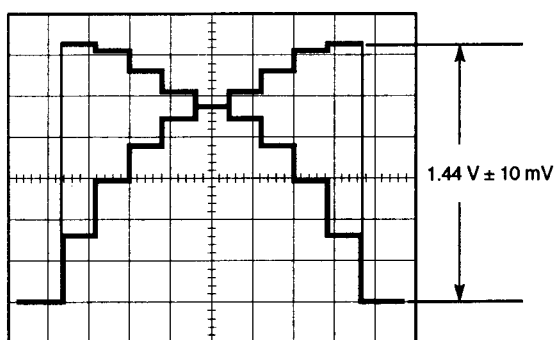

Fig. 5-1-30
- Adjust VR108 so that the Video signal level becomes  $1.44 \text{ V} \pm 10 \text{ mV}$  as shown in Fig. 5-1-30.
- Adjust VR208 so that the Video signal level becomes  $1.44 \text{ V} \pm 10 \text{ mV}$  as shown in Fig. 5-1-30.
- Adjust VR308 so that the Video signal level becomes  $1.44 \text{ V} \pm 10 \text{ mV}$  as shown in Fig. 5-1-30.